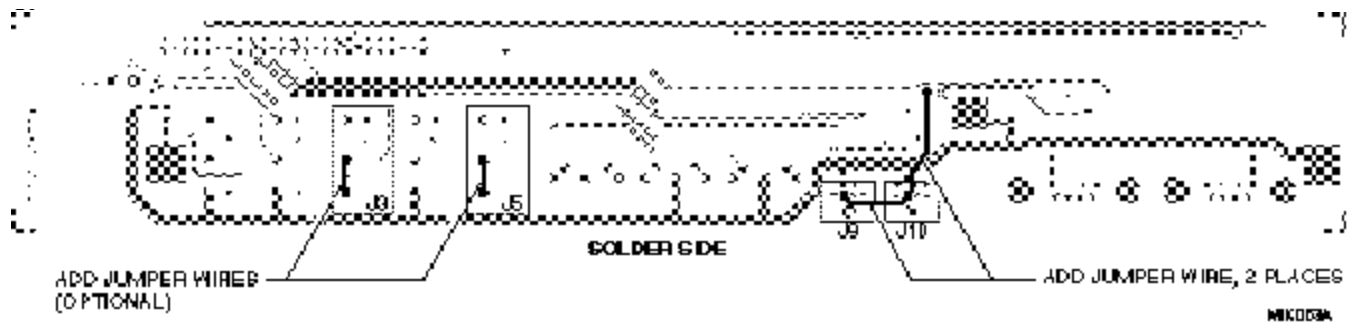

Figure 3. Jumper Insertion on Solder Side
7. Insert a jumper from the flowthrough to Pin 1 of connectors J10 and J9. You may use one or two jumper wires. See Figure 3 for Jumper location.
8. Insert a jumper between the sleeve (ground) and ring, on jacks J3, TIME CODE OUT and J5, AUX OUT as shown in Figure 3.